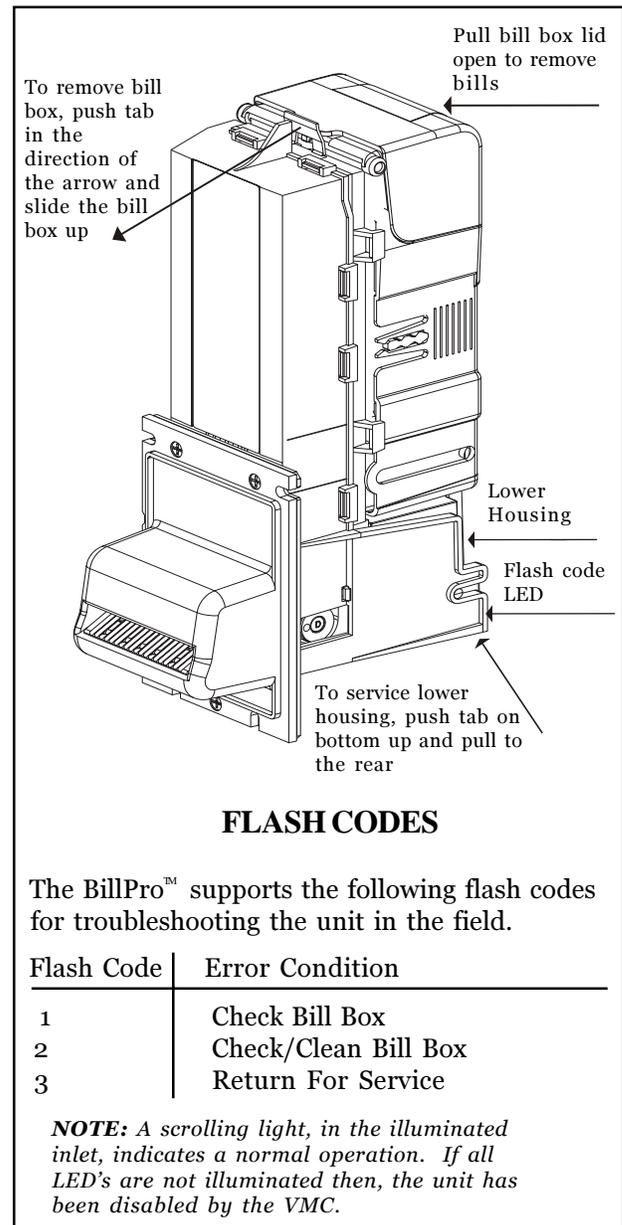

Figure 2
- Accepted bills may be removed by releasing the bill box lid exposing the bills or by removing the bill box from the bill acceptor (See Figure 2).
(See Figure 2)